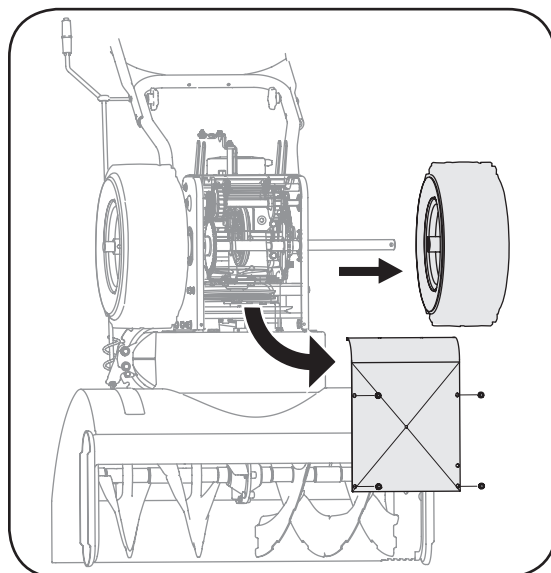

Figure 6-13
- Remove screws from the frame cover underneath the snow thrower. See Figure 6-13.